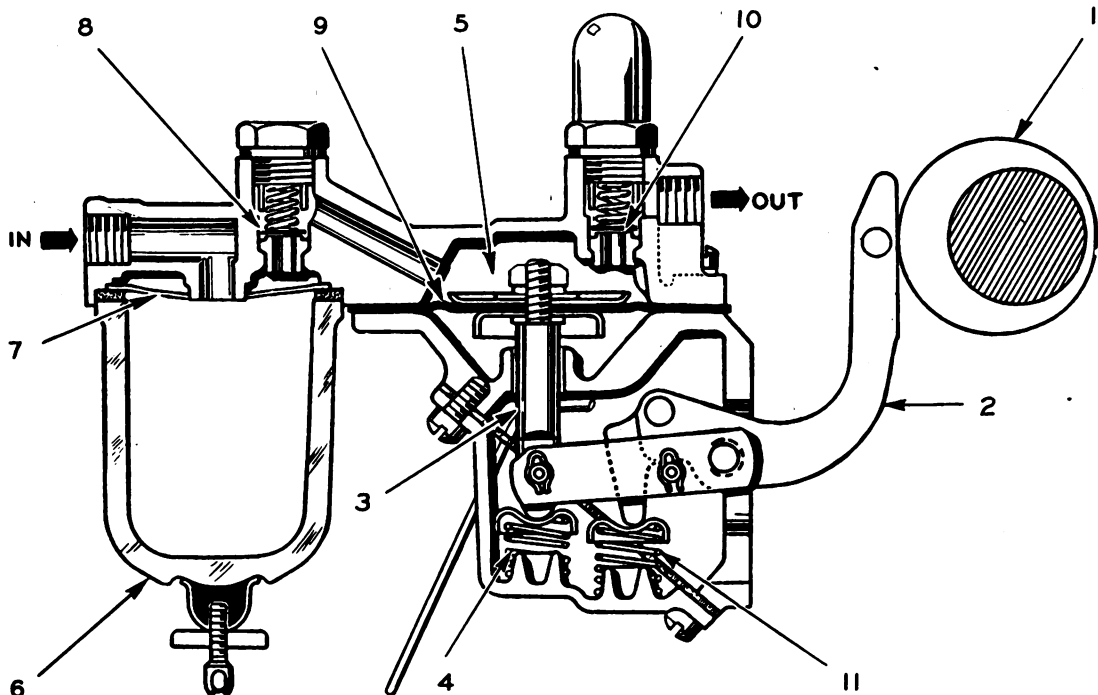

Fig. 58. Cross Section through Fuel Pump
a. Operation. (Refer to Fig. 58)